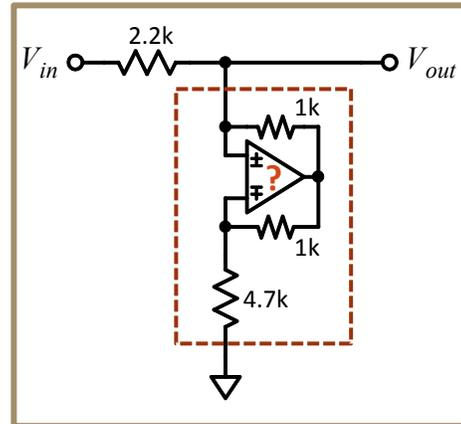

Figure 5-18: A voltage divider with a negative impedance (boxed circuit).
1. Consider the voltage divider with a negative impedance circuit as one “element” shown in Figure 5-18 at right.
Construct the amplifier with a negative impedance circuit shown in Figure 5-18 using your solution to Prelab Exercise 1 as a guide. Measure its gain and compare with your calculations.